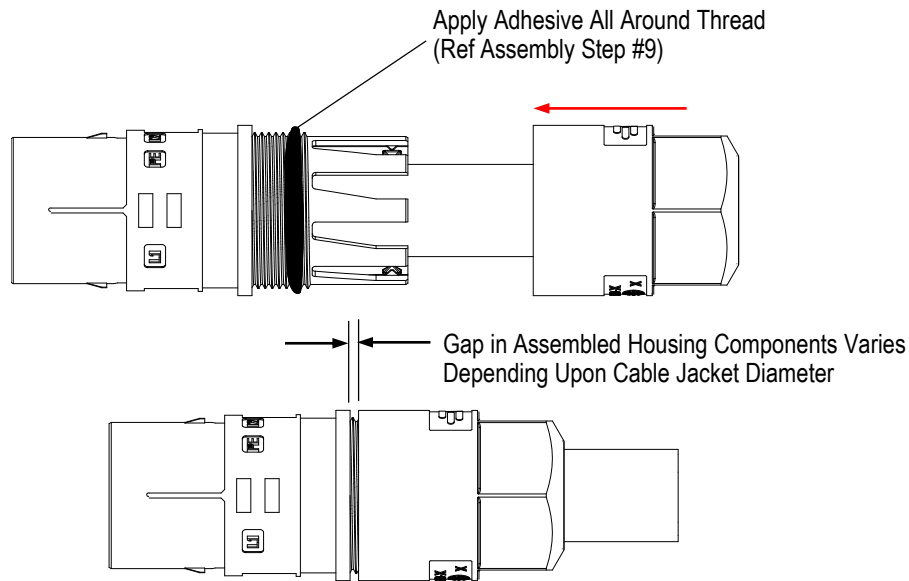

Figure 19
9. Before assembly of ring nut onto connector housing, apply Loctite 401, or 414 adhesive all around threaded portion of front housing component. Reference Figures 19, 20, and 21.